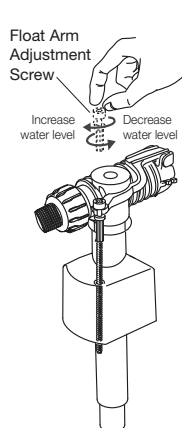

Fig. 6
- 4- For Bottom Inlet installation, connect flexible hose to Inlet Valve as detailed in Fig. 6.